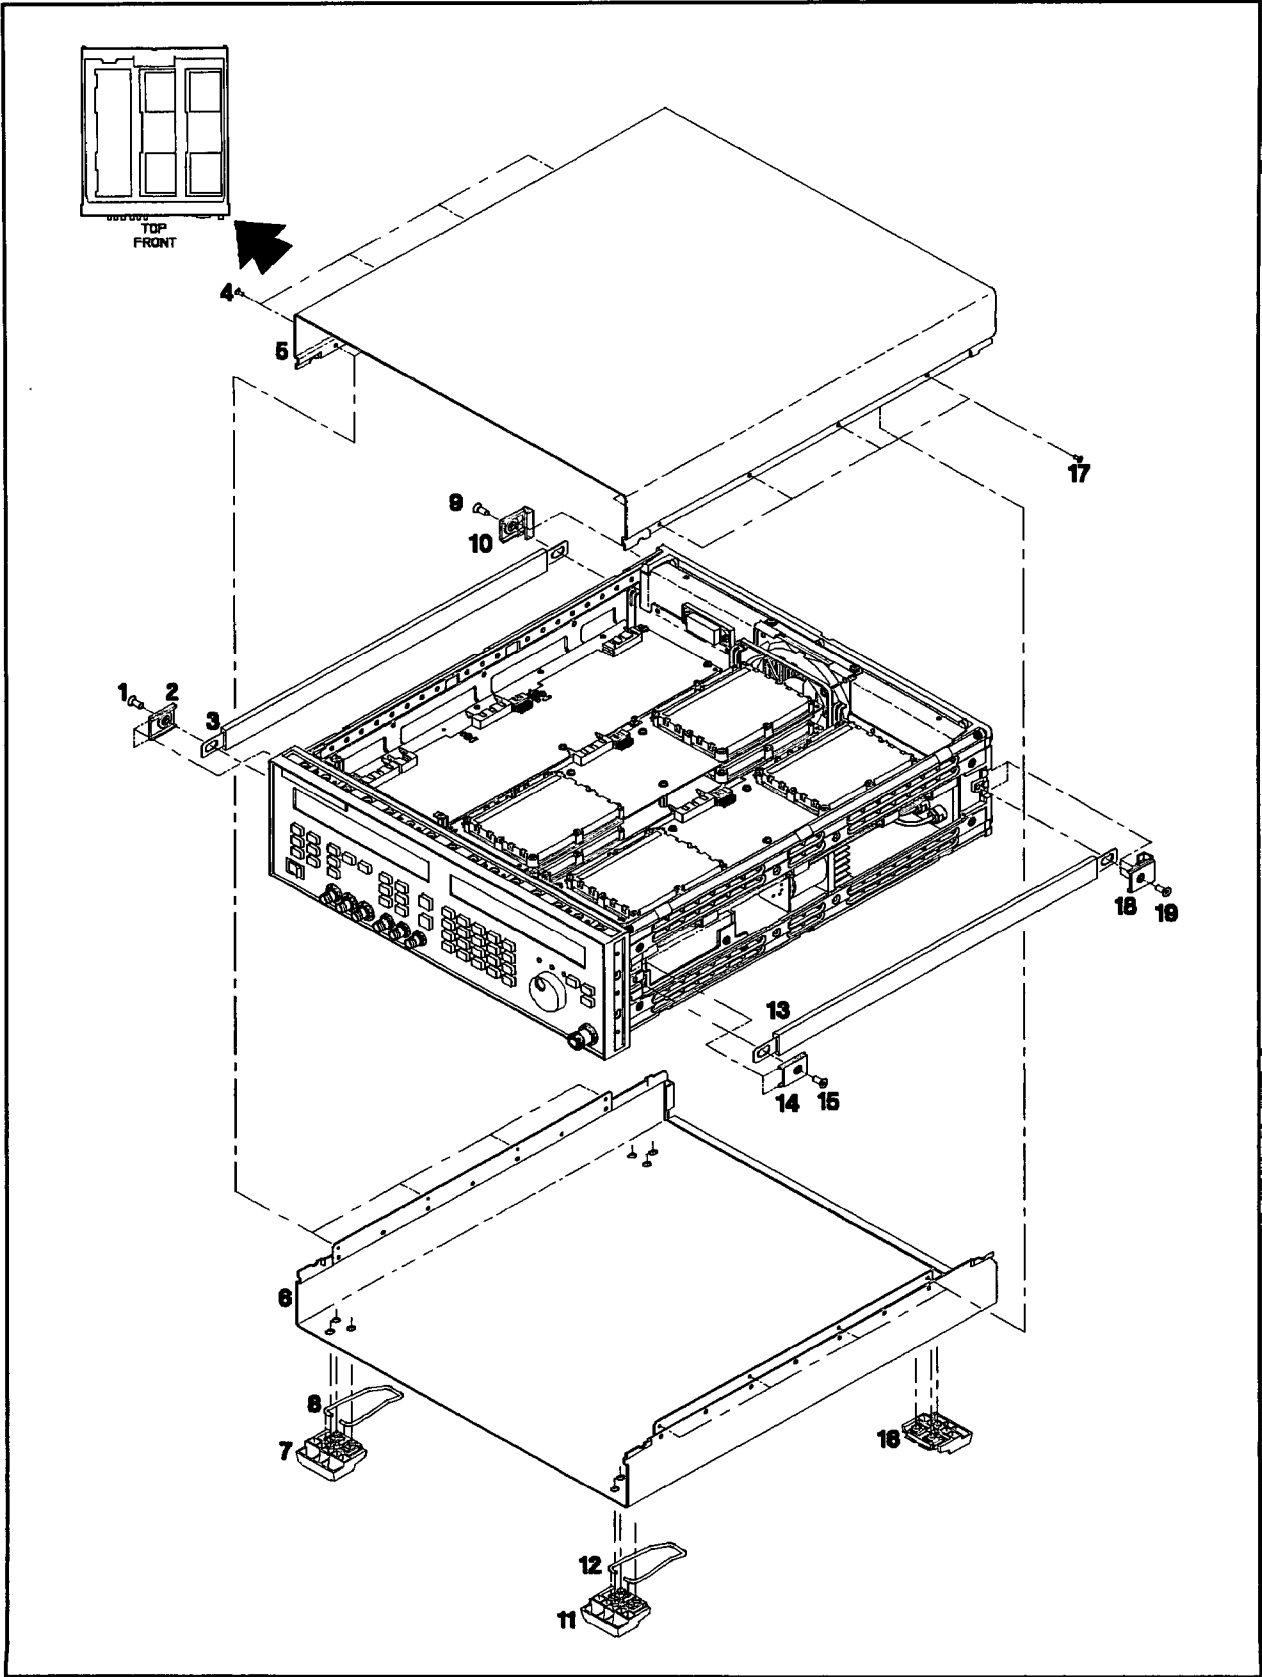

Figure 4-7. Top and Bottom Cover Illustrated Parts Breakdown
**Table 4-9. Illustrated Replaceable Parts (Figure 4-7)**